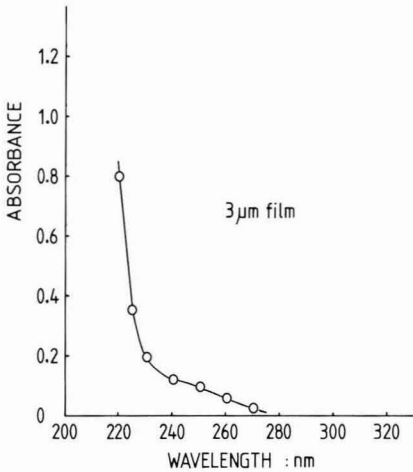
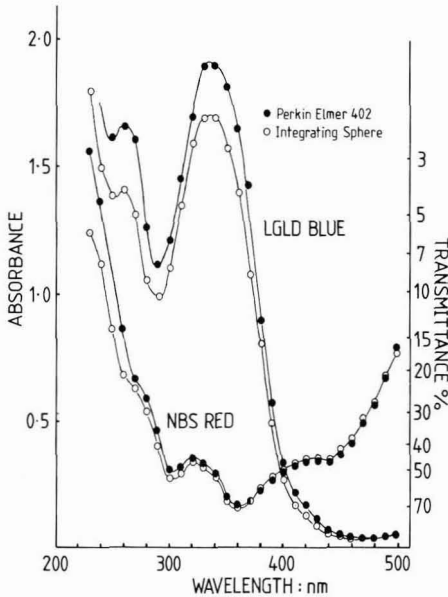

Figure 1—UV absorbance spectrum of a mix of RCP 157 resin (60 parts) and TMPTA (23 parts)
Figure 6—UV absorbance spectra of pigmented mixes
The monomer chosen was trimethylol propane triacrylate (TMPTA), also supplied by Lankro Chemicals. This again only absorbs short-wave UV radiation, and has very low volatility. *Figure 1* shows the UV absorbance spectrum of a three micron film of a mix of RCP 157 and TMPTA (60 parts : 23 parts).
(4) The NaCl disc was printed with a thin film of one of the pigmented mixes, using a Duncan Lynch proof printer to apply a uniform film to a hand roller. The IR spectrum of the film was measured using a Perkin Elmer 157G spectrophotometer. The printed disc was replaced in position in the entrance port of the integrating sphere and measurements of the photomultiplier current were again made every 10 nm. These measurements were compared with those obtained with the clean disc, and the apparent absorbance of the film was calculated for each wavelength. The procedure was repeated for films of different thickness. The thickness of each film was calculated from the absorbance of the 808 cm-1 peak in the IR spectrum, a calibration having been made by comparing absorbance values for this peak with measured weights deposited on the disc.
(5) From the data, it was possible to plot graphs of the absorbance at any wavelength against film thickness. Straight line graphs were obtained but not all these lines passed through the origin. There was sometimes observed a small intercept on the absorbance axis which was thought to be due to radiation being reflected from the surface of the film. Absorbance spectra for films of different thickness were calculated from the gradients of the lines. Figure 6 shows the absorbance spectra of 3 μm films of the two pigmented mixes. The contribution of the resin/monomer mix is small, as can be seen from Figure 1.
tion passing through the film to be measured. To assess the benefits of this, parallel measurements were made using a Perkin Elmer 402 UV/Visible spectrophotometer. These are also shown in *Figure 6*. As may be expected with relatively transparent pigments, the results of the two methods are very similar, although lower absorbance figures were obtained with the integrating sphere method at shorter wavelengths.